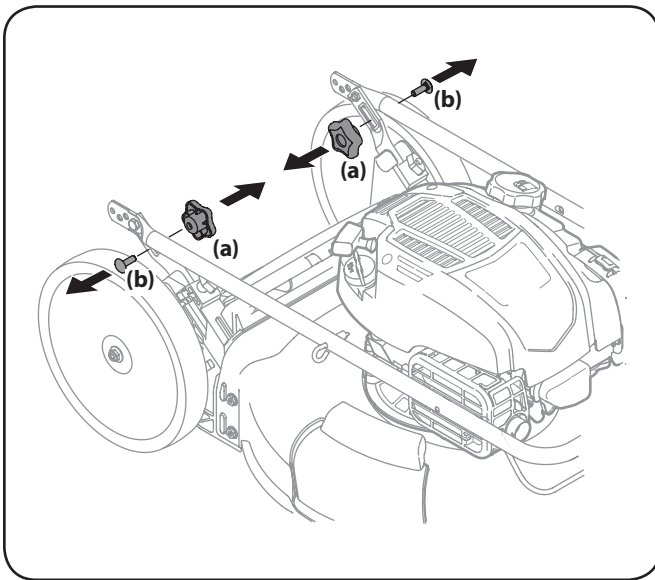

Figure 3-1
2. Remove star knobs (a) and carriage bolts (b) from handle as shown in Figure 3-1. Do not loosen or remove adjacent hex head screws.